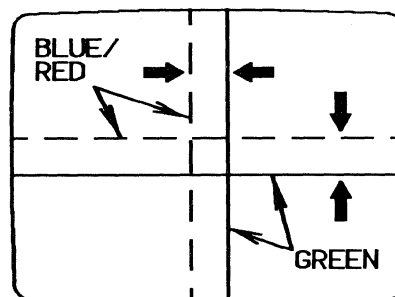

FIGURE 11. STATIC CONVERGENCE B
- b-2) After completing the RED and BLUE center convergence, locate the pair of six-pole magnet rings. Rotate the individual rings(change spacing between tabs) to converge the vertical RED and BLUE (magenta) and GREEN lines. Rotate the pair of rings(maintaining spacing between tabs) to converge the horizontal RED and BLUE (magenta) and GREEN lines. Refer to FIG.11